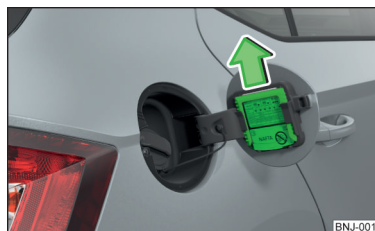

Fig. 163
- Slide out the ice scraper in the direction of the arrow » Fig. 163.